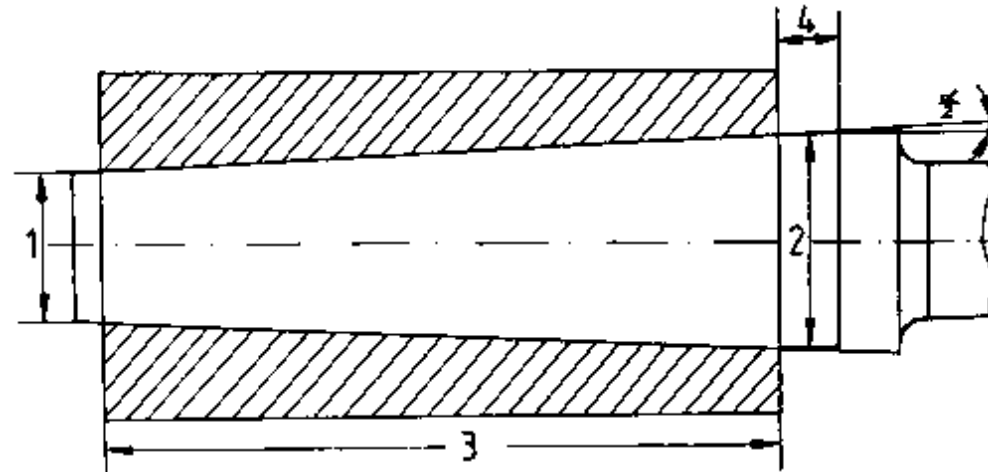

Figure 19 Pre-fitting check with taper plug gauge
In any case it is to be ensured that the diameter after pre-machining does not fall below the minimum taper diameter (see Fig. 19) but is provided with a machining allowance for reaming.
- Top slide adjustment is the method mostly used for pre-machining of taper holes. The taper guide bar is normally used where the taper length (see Fig. 19) exceeds the working travel (crank length) of the top slide.
The pre-fitting length (see Fig. 19) can be calculated by the formula